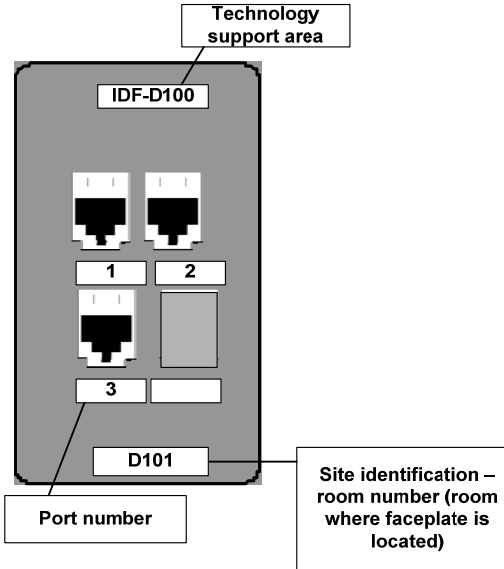

Figure 7 – Typical Data Receptacle Labeling Scheme
2. All faceplates will denote at the top, the MDF or classroom data cabinet room number on each faceplate. For example, if the label is IDF-D100, then this means the cables in this faceplate are terminated in network technology support area located in room D100. The individual CAT-6 modules will be identified with a label representing the port number below each CAT-6 module. This port number will be the same port number used to identify this cable in the MDF. For example, if 10 cables are terminating in the classroom then the faceplate port numbers will fall in a range from 1 to 10. In addition, all faceplates will denote at the bottom, Classroom number. For example, the label of C104 implies the room number where the faceplate is located. Figure 7 shows the detailed labeling required for a faceplate for classroom C104.